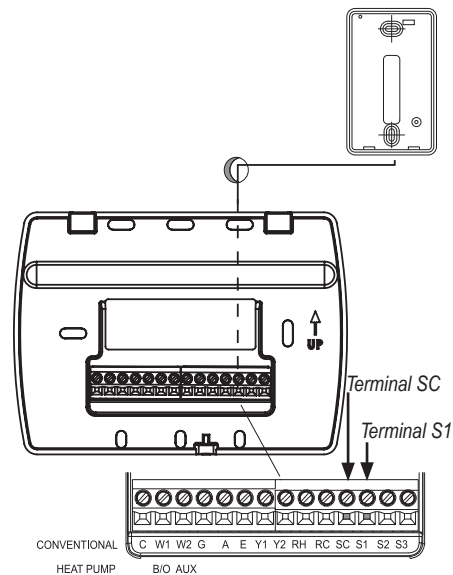

Figure 23. Wiring terminal designations for SP155-017 Indoor Remote Zone Sensor.
2. **Connect wires.** Connect the wiring to the terminals at the thermostat wallplate (S1 and SC) See Fig. 23, below.